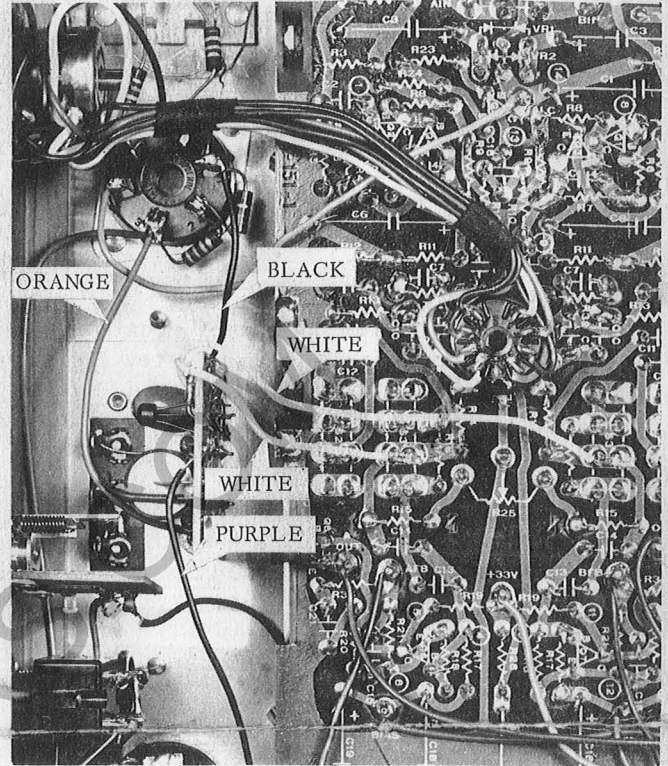

FIG. 2
5. Install Electronic Switch Assembly, Part No. 131445, on the amplifier as shown in Fig. 2 on the reverse side.